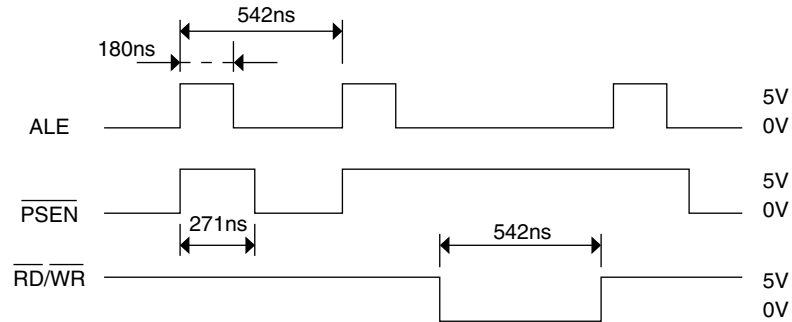

Figure B-3-3
- Yes Are ALE, $\overline{\text{PSEN}}$, $\overline{\text{RD}}$, $\overline{\text{WR}}$, signals as specified in Figure B-3-3?